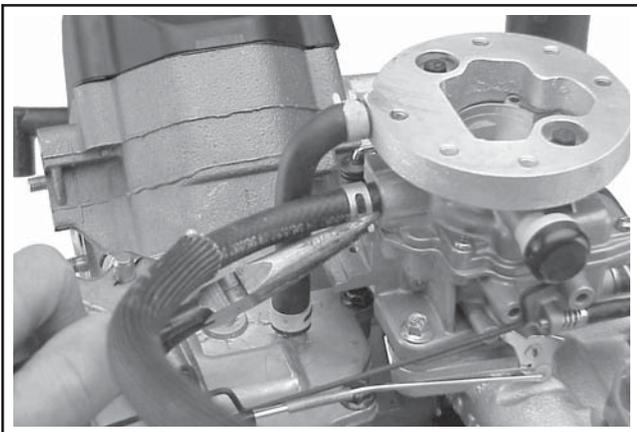

Figure 11-84. Connecting Fuel Line (Mechanical Fuel Pump).
7. If a mechanical fuel pump is used, install the fuel line between the outlet of the fuel pump and the carburetor inlet, and secure with the clamps. See Figure 11-84.